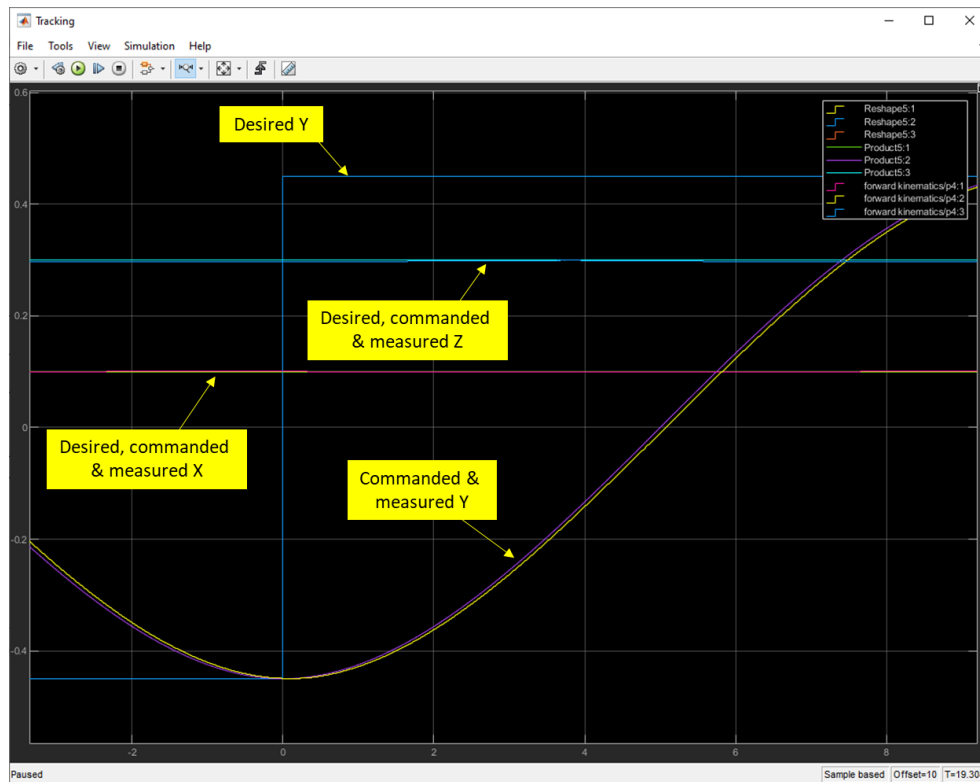

Figure 2 - Sample results showing the manipulator following a spline
- Open the scope labeled **Tracking**. Sample results are shown in Figure 2. The scope displays the desired, commanded, and measured X, Y, Z values all in meters. The results indicate that when a change in the Y axis setpoint occurs, the end-effector initially accelerates along the Y axis as it starts to follow the spline, then travels at a constant velocity, before decelerating as it reaches the setpoint. Was the manipulator successfully able to traverse the entire trajectory?